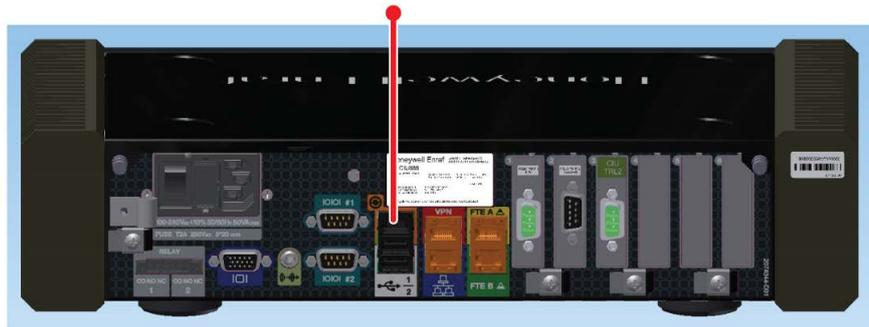

FIGURE 3-1
- The primary CIU 888 and the secondary CIU 888 must be linked through their Sync Link ports using a Cat. 5 Ethernet cable (patch or crossover). The Sync Link port is located at the back of the CIU 888 (see FIGURE 3-1).